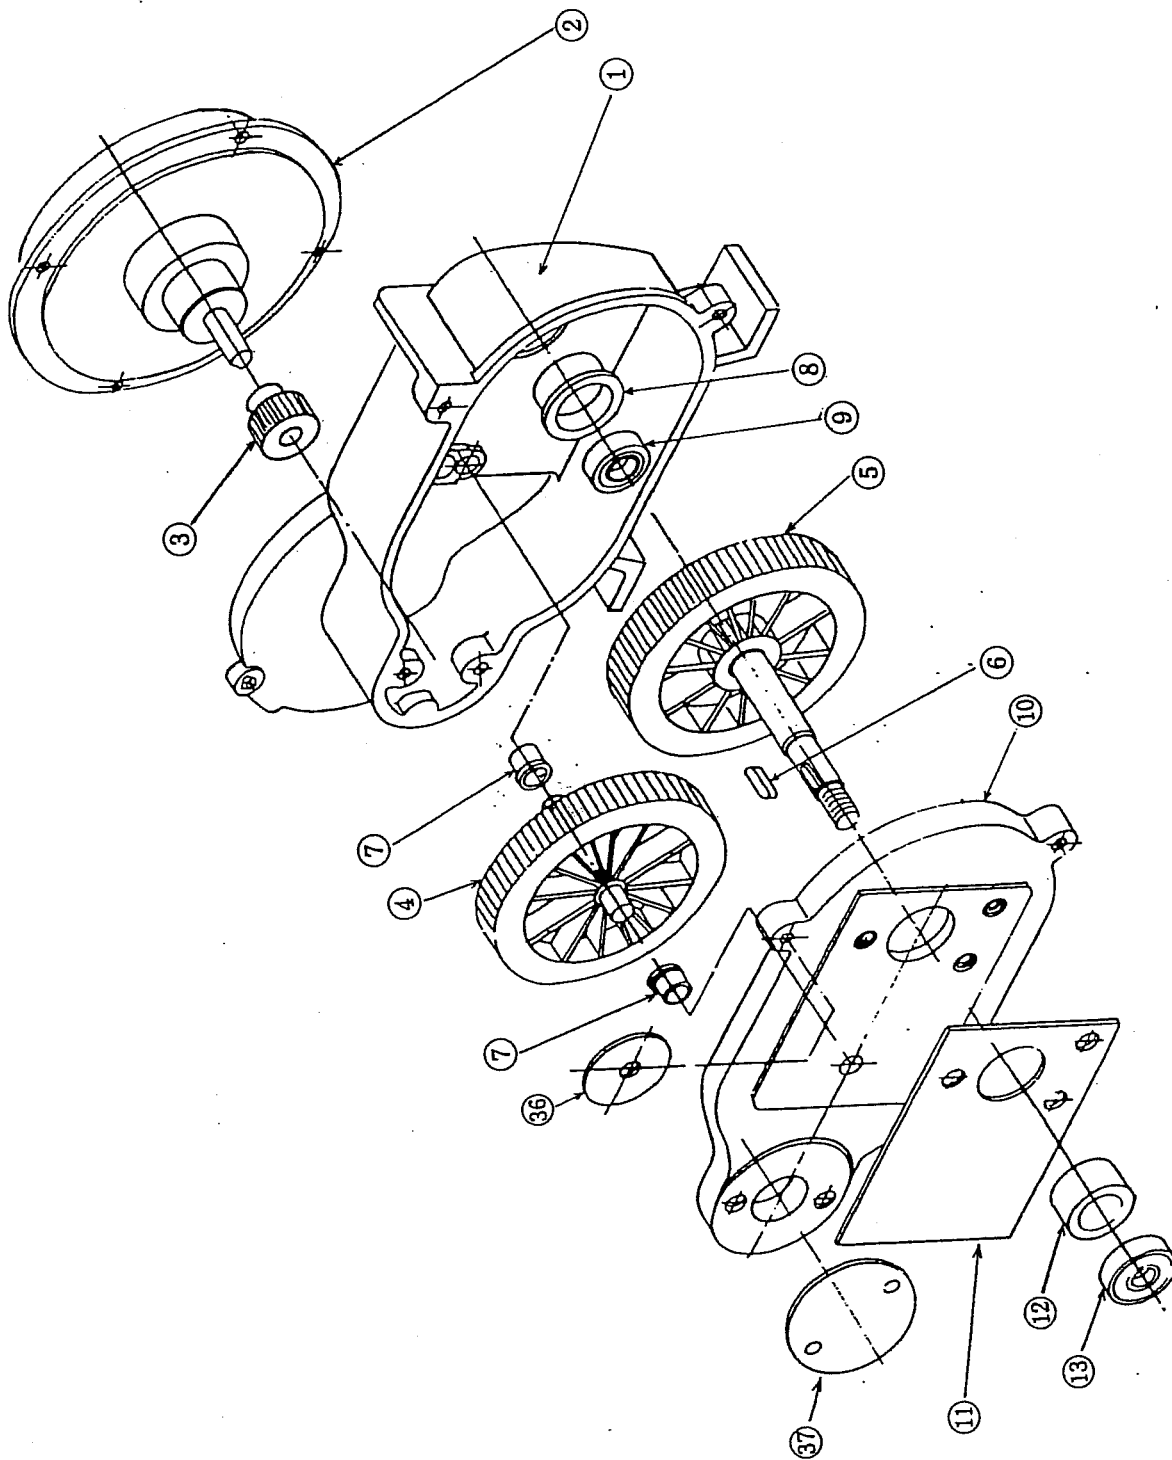

Fig. 1 Disassembly drawing of wire feed reduction gear unit
9.1 Wire feeding reduction gear (Refer to Fig. 1, 2)